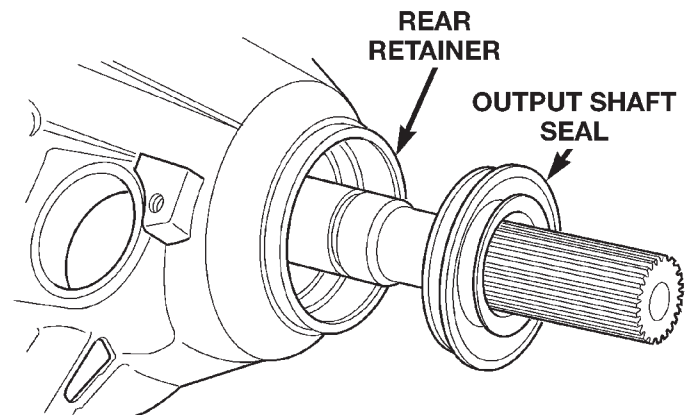

Fig. 12 Rear Seal Removal
(4) Remove rear seal from retainer (Fig. 12). Use pry tool, or collapse seal with punch to remove it.